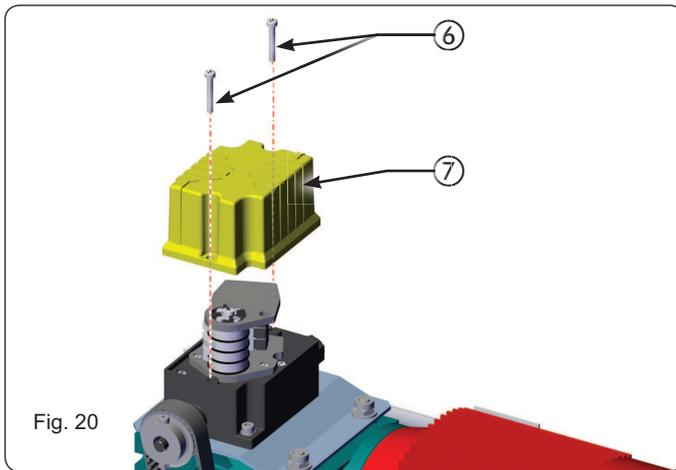

Fig. 20
2. Loosen the screws and remove the limit switch unit cover (Fig. 20 ref. ④ ⑦).